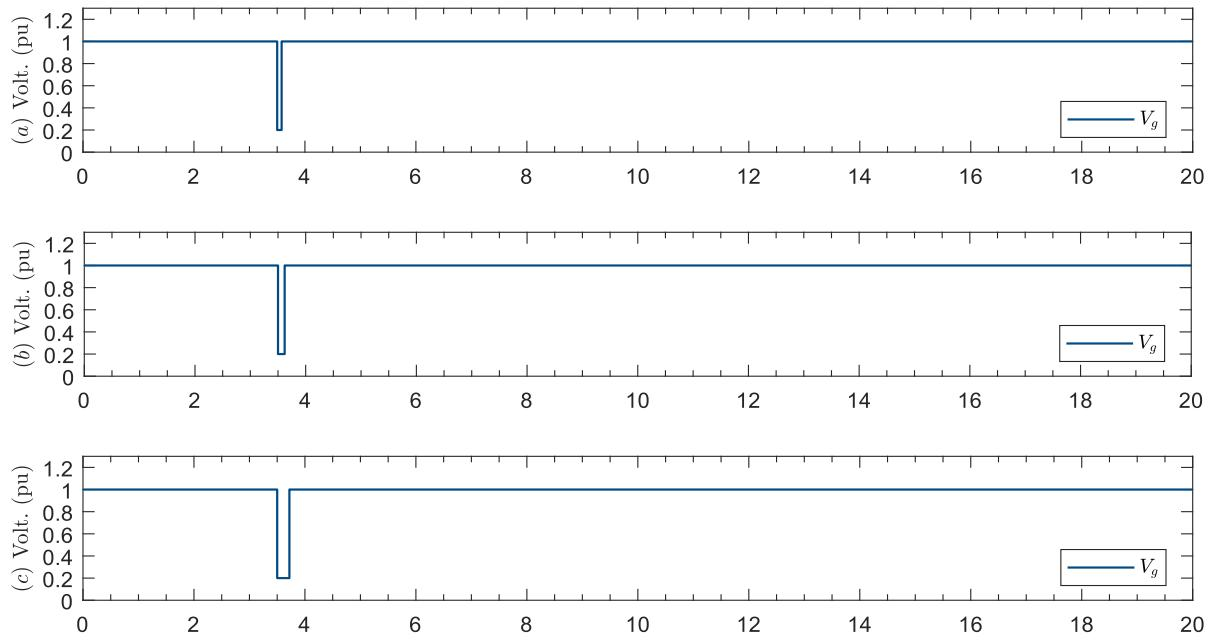

Fig. 14: Voltage sags of 0.8 p.u for duration of 80, 120, and 220ms
- (a) From 230V to 115V, then 115V to 230V, for duration of 80, 120, and 220ms -See Fig. 14.